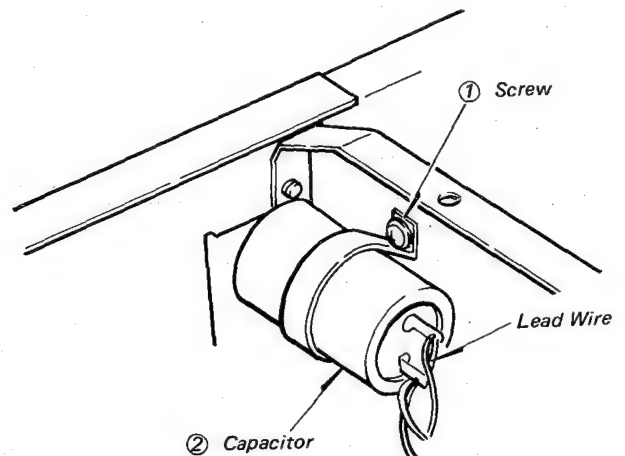
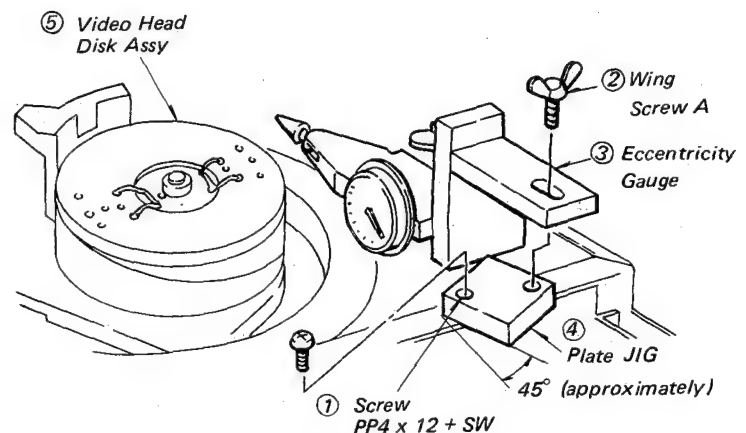
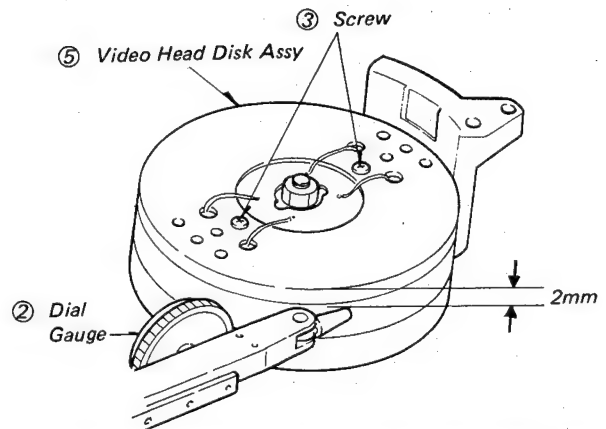

Fig. 5-67 Cylinder Eccentricity Gauge Installation (1).
Fig. 5-68 Cylinder Eccentricity Gauge Installation (2).
Fig. 5-69 Measurement of the Video Head Disk Assembly Eccentricity
1. Remove the screw ① holding the capacitor ② (see Fig. 5-67).
2. Take out the capacitor ② together with the bracket, leaving the wires connected to it.
3. Mount the plate ④ on the frame (R) with screw ①.
4. Mount a cylinder eccentricity gauge ③ in position on the plate with the wing screw A ② (see Fig. 5-68).
5. Position the probe of the dial gauge around 2 mm below the top of the video head disk assembly ⑤ (see Fig. 5-68 and 5-69).
1. Loosen the wing screw A and adjust the dial gauge ② so that the needle is at the center of the scale (see Fig. 5-68).
3. While gently turning the video head disk assembly ⑤ counterclockwise by hand, read the dial gauge ②.
4. When the dial gauge ② indicates that the video head disk assembly ⑤ is most eccentric to the dial gauge ② side, stop turning the video head disk assembly ⑤ (see Fig. 5-69).
5. Fit a bladed screwdriver on the inside surface of the video head disk assembly ⑤ and lightly tap it until the needle returns a half of the maximum deflection measured in Steps 1 through 4 above.
10. Tighten the screw ① (in Fig. 5-67) to hold the capacitor ② together with the bracket.